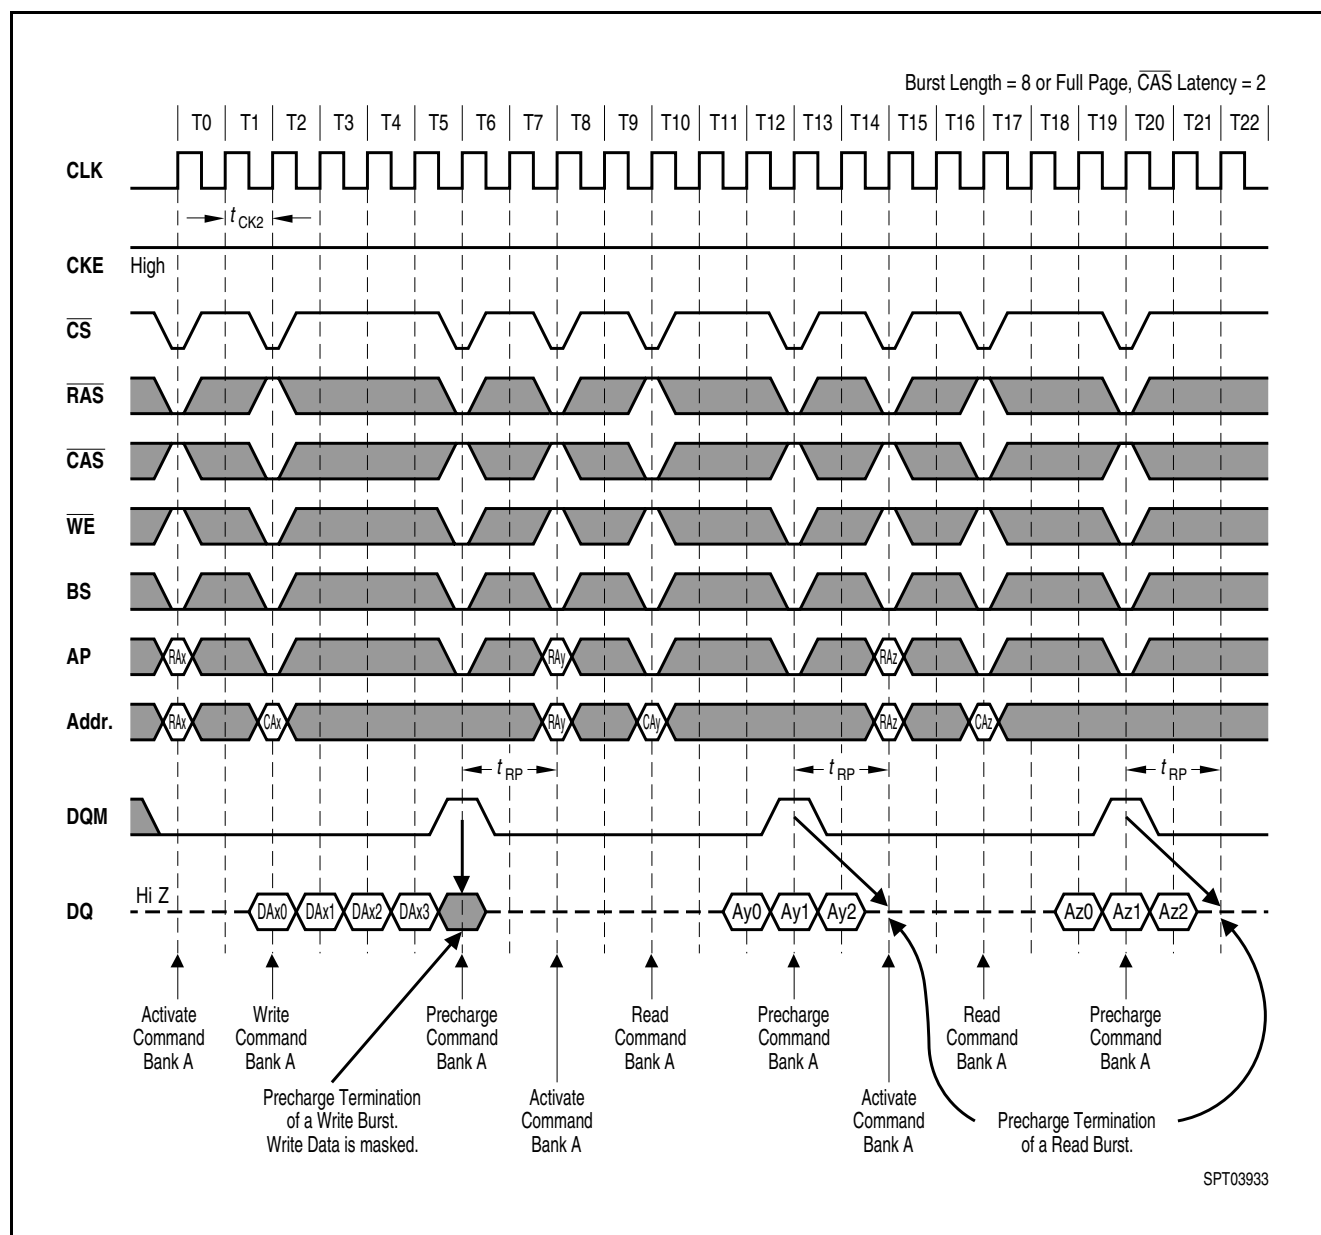

Figure 35 CAS Latency = 2
- **Figure 35** CAS Latency = 2